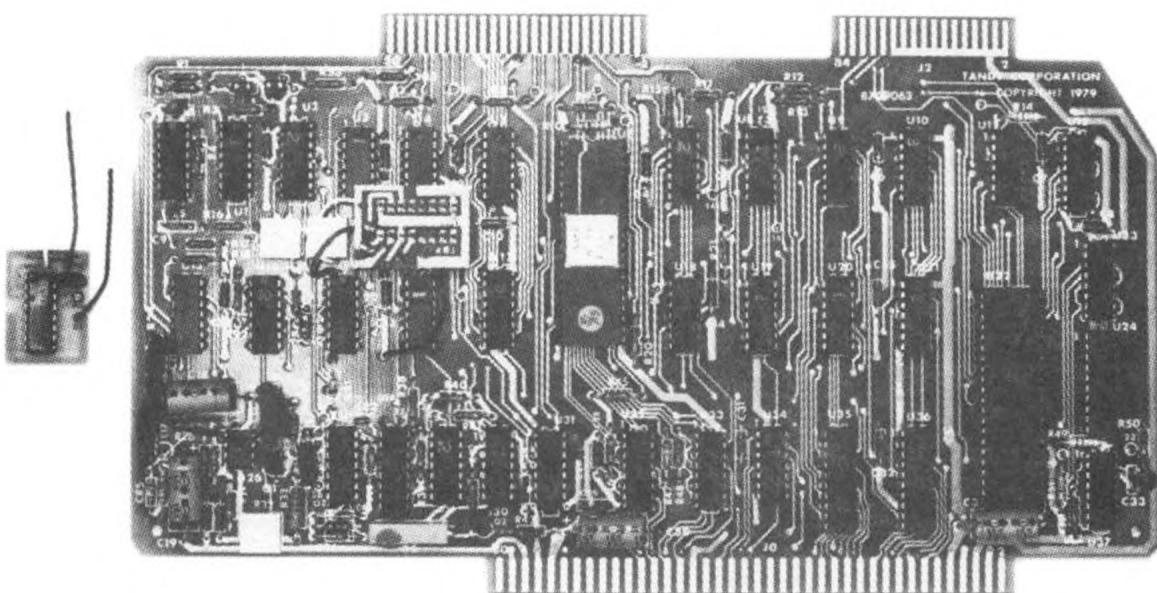

Figure 1
2. Dress red, black, and white wires coming from the satellite board to follow the routing shown in Figure 1.
5. Reflow solder in unused PCB pads while inserting tinned satellite module leads as shown in Figure 1.